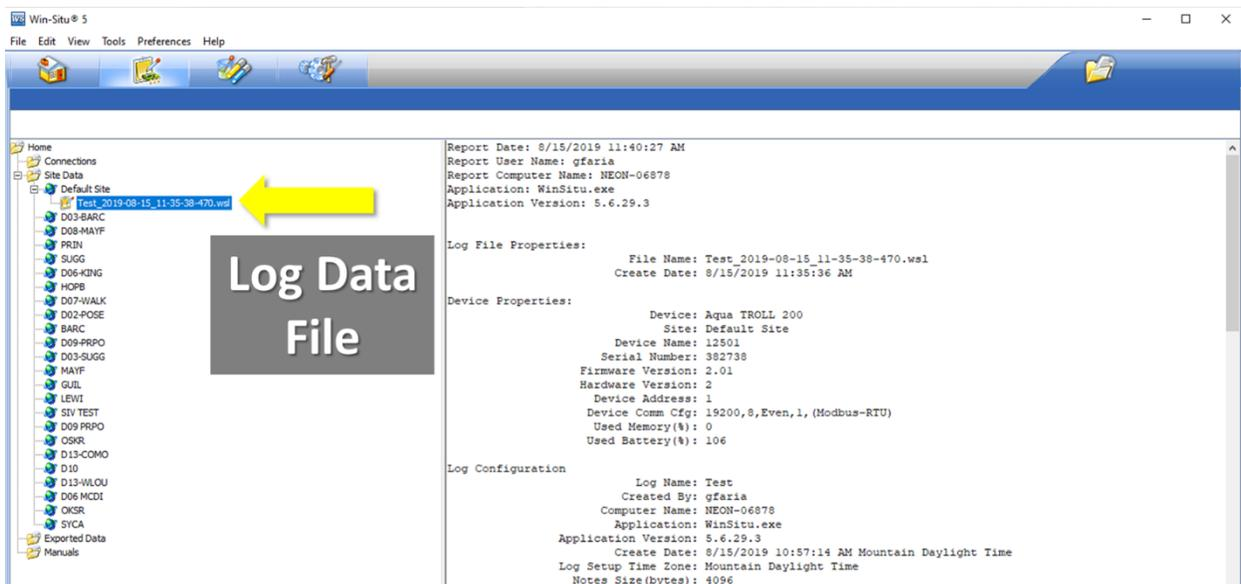
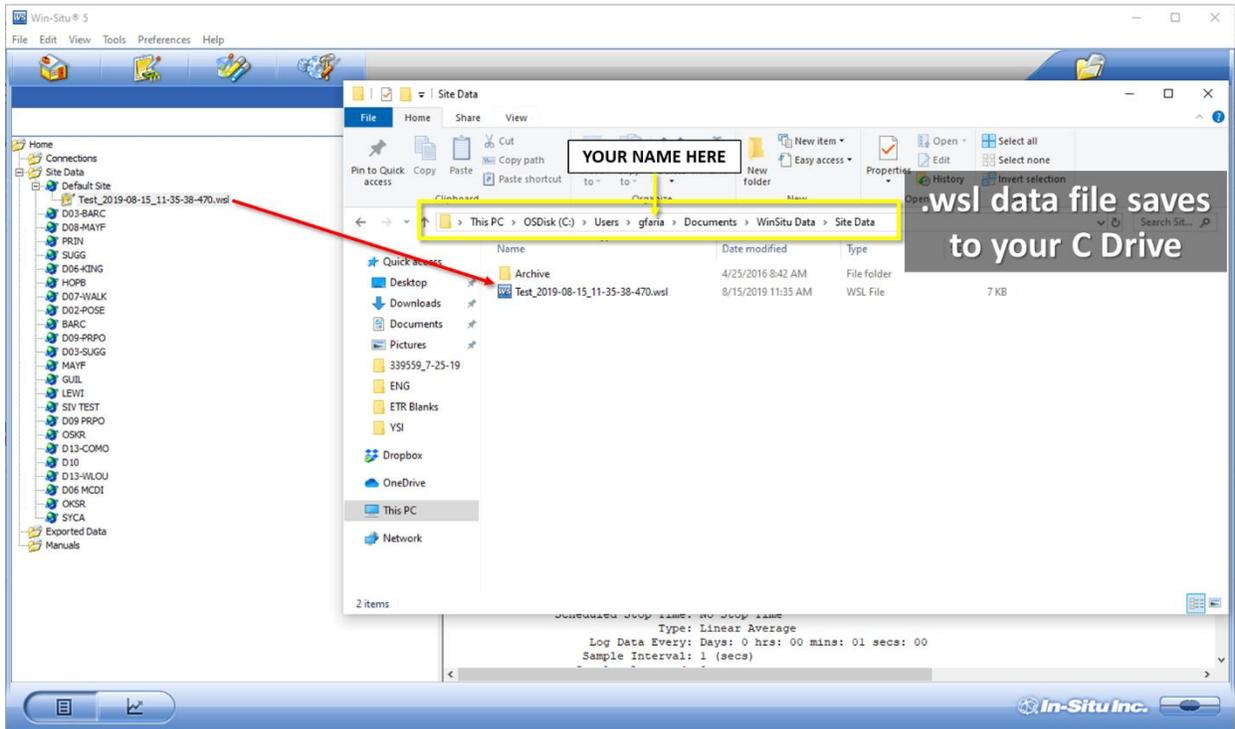

Figure 29. The Log File will be listed under your Site as a .wsl File
Figure 30. Data Saves to your C Drive under a "WinSitu Data" Folder
- This opens up a data view and your downloaded log file will be listed under your site as a **.wsl** (windows subsystem for Linux) file (**Figure 29**). This data saves to your C Drive under a **WinSitu Data** folder (**Figure 30**).